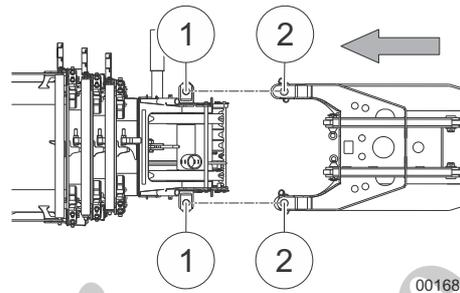

Fig. 184 Lifting the fly boom to the telescopic boom
- 14 | Align the fly boom to the telescopic boom head. The bores of the fly boom (2) and the telescopic boom (1) in Fig. 184 must align.